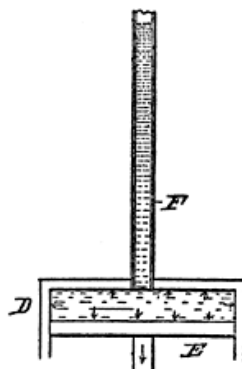

Fig. 132. Water Pressure ToList
This same thing applies to water which, as stated, is dependent on its head. Fig. 132 ¹³⁶ represents a cylinder (D) with a vertically movable piston (E) and a standpipe (F). Assuming that the pipe (F) is of sufficient height to give a pressure of 50 pounds to the square inch, then the piston (E) and the sides and head of the cylinder (D) would have 50 pounds pressure on every square inch of surface.